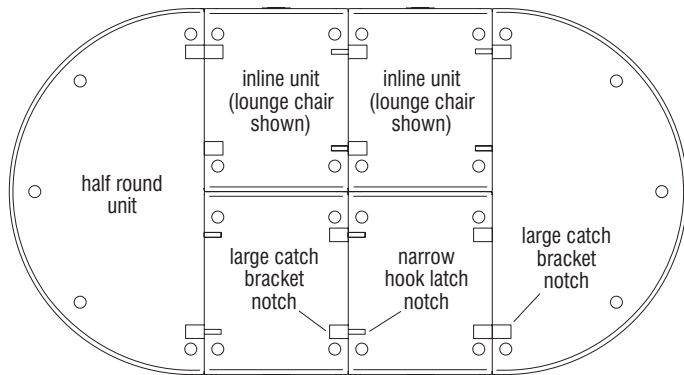

Figure 1 - (bottom view)
Note: Larger and smaller notches at the underside and edge of each unit are the mounting locations for hook latch and catch bracket of the ganger kit. These notches are covered over by the fabric dust cover and must be located. When facing the front of a unit, all units except half rounds have large notches on the left side of the unit to install catch brackets and narrow notches on the right side to install latch brackets. Half round units have two large notches along the back of the unit but can be utilized to install catch brackets and latch brackets (Figure 1).
1. Move all adjoining units together in the intended configuration, at or near their final installation location (Figure 1).